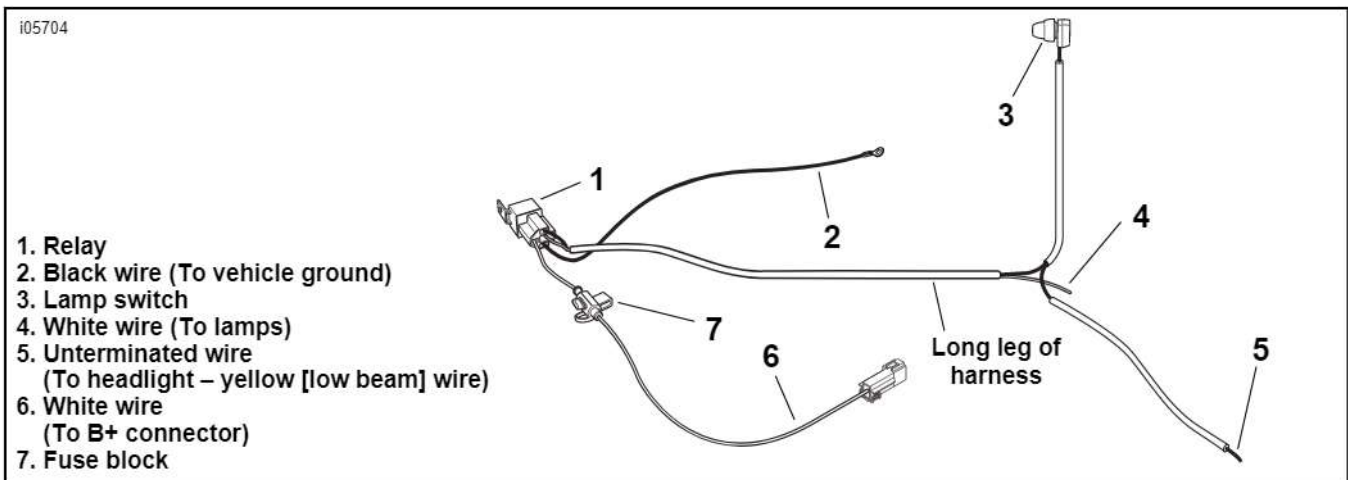

Figure 3. Wiring Harness Component Identification
See Figure 3 for wiring harness component identification.
All 2003 and earlier models: See Figure 3. Cut the connector from the white power lead, and replace it with the ring terminal supplied in the kit. Connect the white wire with the ring terminal to the copper stud (BAT) terminal of the main circuit breaker.
9. See Figure 3. Connect the black ground wire (2) with the ring terminal to the ground stud under the seat, or at any good electrical ground point. Secure the kit harness to the adjacent harnesses with cable straps (Item 16) from the kit.
10. See Figure 3. Route the harness past the steering head, and route the lamp switch (3) leg of the harness along the left side of the handlebar to the clutch control.